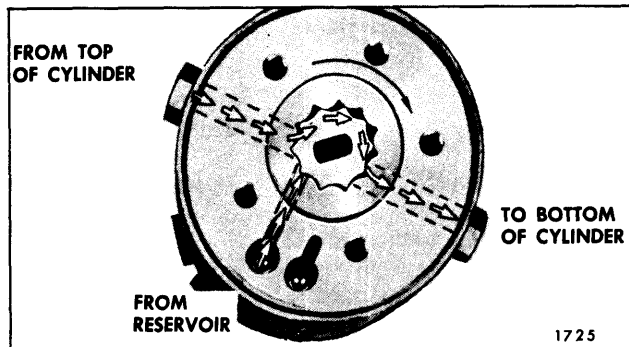

Fig. 13-61—Operation of Pump to Raise Top
1. **Raising the Top.** When the red motor lead is energized the motor drive shaft turns the rotors clockwise as indicated by the large arrow in Figure 13-61. The action of the pump rotors forces the fluid under pressure to the bottom of each cylinder forcing the piston upward. This action causes the fluid above the piston in each cylinder to be forced into the pump, which recirculates the fluid to the bottom of the cylinders. The additional fluid required to fill the cylinder due to piston rod displacement is drawn from the reservoir.